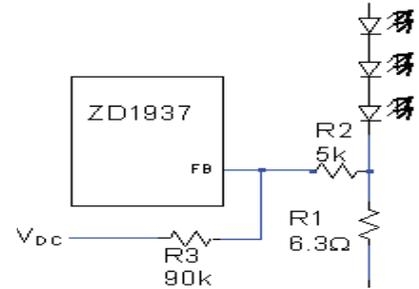
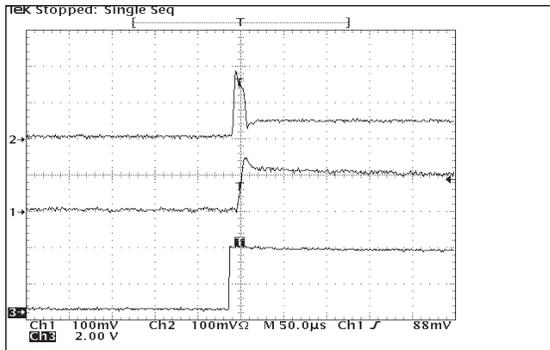

Figure 3. DC Voltage Dimming Control
Figure 6. Start-up Waveforms Without External Soft-Start Circuit
In some applications, a DC voltage is available for adjusting the LED current, see Figure 3. LED current of 0mA to 15mA is provided with a V_{DC} range of 0V to 2V for the values in figure 3.
To provide the option of minimum start-up delay, no internal soft-start circuit is included in the ZD1937. Inrush current for the ZD1937 is about 200mA, when first turned on, without an external soft-start circuit, as shown in Figure 6. The recommended circuit and waveforms for external soft-start, if desired, are shown in Figure 7. If implementing soft-start and dimming, limit the PWM signal on the SHDNB Pin to below 10kHz or provide the dimming function using the FB Pin as shown in Figures 3, 4 or 5.
In the figure 6 and 7b waveform, Channel 1 is the Feedback (FB) voltage in 100mV/division. Channel 2 is the supply current in 100mA/division. Channel 3 is the SHDNB in 2V/division.